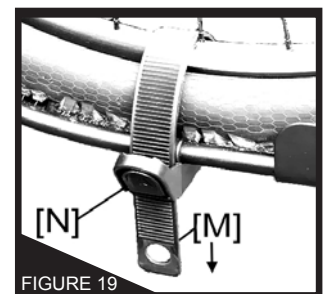

FIGURE 19
1. Release wheel tray straps [Fig 19] by pulling on tab end [M] while pressing release tab [N]. Tuck strap behind rear wheel. Pulling on the strap helps to release the buckle.